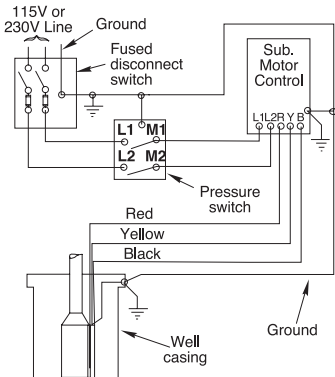

Figure 1 - 3-wire quick disconnect box. Follow color coding when connecting control box (Yellow to Y, Red to R, Black to B).
Wire control box as shown in Figure 1. A 3-wire pump will not operate without a control box and will burn out a 3-wire motor.
4. Connect motor leads and power supply to fused disconnect switch, motor control box, or magnetic starter (see Figure 1). **Do not start pump yet.**